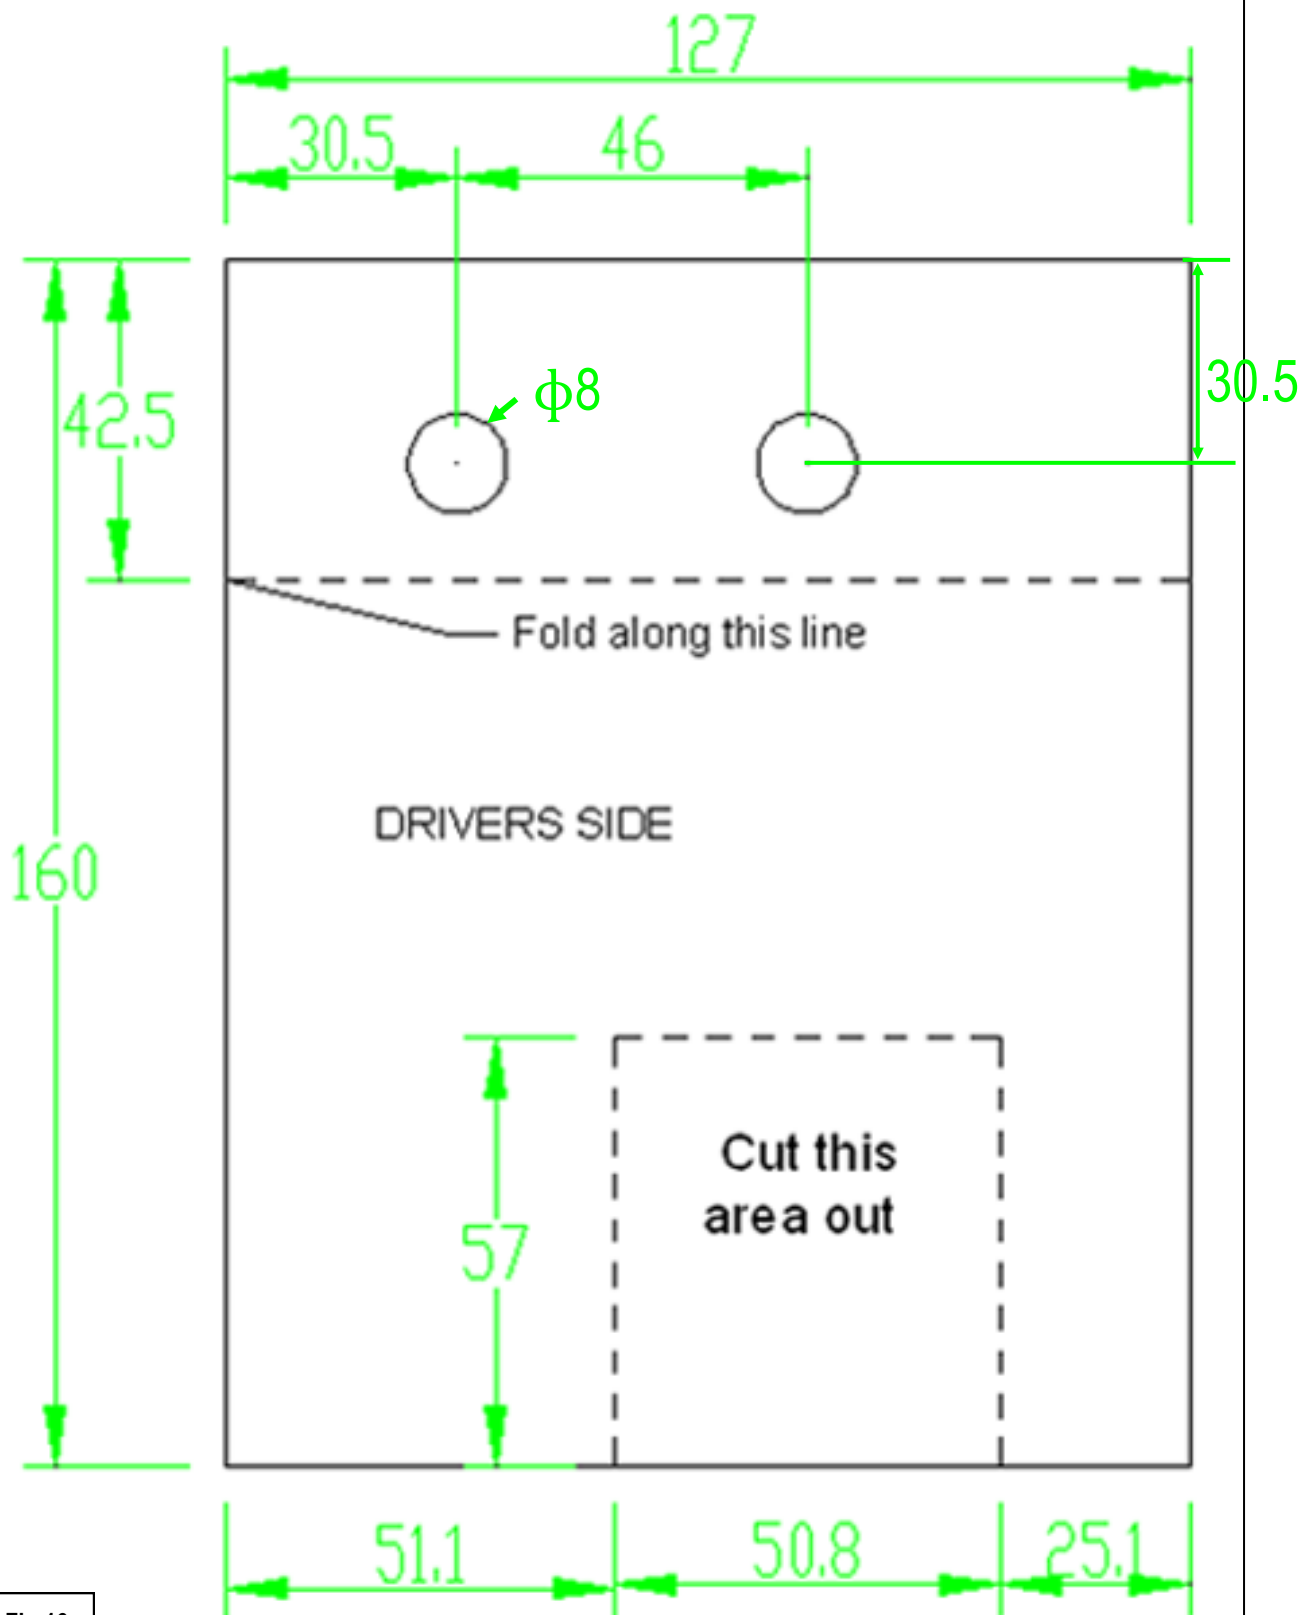

Fig 16
Cut out the paper template on **Fig 16 & 17** labeled "Driver Side". Cut out the square section on the bottom of the Template and the (2) 8mm holes on the top. Fold the top of the Template up along the dotted line, (**Fig 2**). Hold the Template in place over the outer (2) factory 8mm threaded holes next to the pinch weld, (**Figs 3 & 4**). **IMPORTANT:** There are (4) threaded holes at each mounting location, (2) inner on bottom of frame channel and (2) outer next to pinch weld, (**Fig 5**). Hold the correct Template over the outer threaded holes and up against the plastic cover, (**Fig 4**). Use a marker to trace the cut out section on the bottom of the Template onto the plastic cover. Repeat this Step to mark the rear bracket location for cutting.